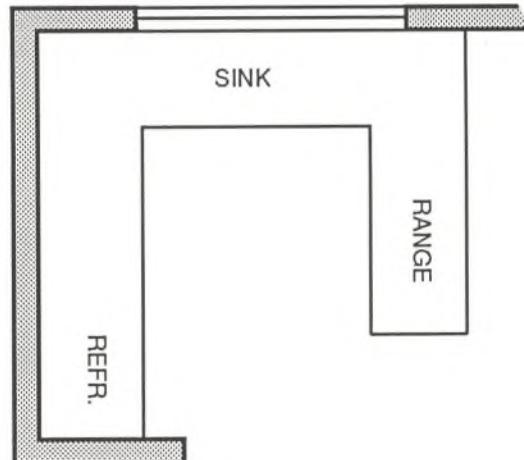

Fig. 9.1 Plan example of a kitchen layout showing a tentative arrangement of sink, range, refrigerator, and base cabinets.
3. Lay out the base (lower) cabinet line by measuring 24" from the wall into the room to show where the outer edge of each cabinet is to be located. (See Fig. 9.1.)